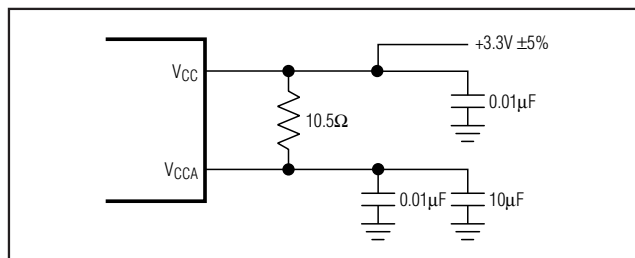

Figure 1. Analog Supply Filtering
**Note 1:** A series resistor of up to  $10.5\Omega$  is allowed between  $V_{CC}$  and  $V_{CCA}$  for filtering supply noise when system power-supply tolerance is  $V_{CC} = 3.3V \pm 5\%$ . See Figure 1.
**Note 5:** Measured using setup shown in Figure 1.
The MAX3625 is a mixed analog/digital IC. The PLL contains analog circuitry susceptible to random noise. In addition to excellent on-chip power-supply noise rejection, the MAX3625 provides a separate power-supply pin, VCCA, for the VCO circuitry. Figure 1 illustrates the recommended power-supply filter network for VCCA. The purpose of this design technique is to ensure a clean power supply to the VCO circuitry and to improve the overall immunity to power-supply noise. This network requires that the power supply is  $+3.3V \pm 5\%$ . Decoupling capacitors should be used on all supply pins for best performance.